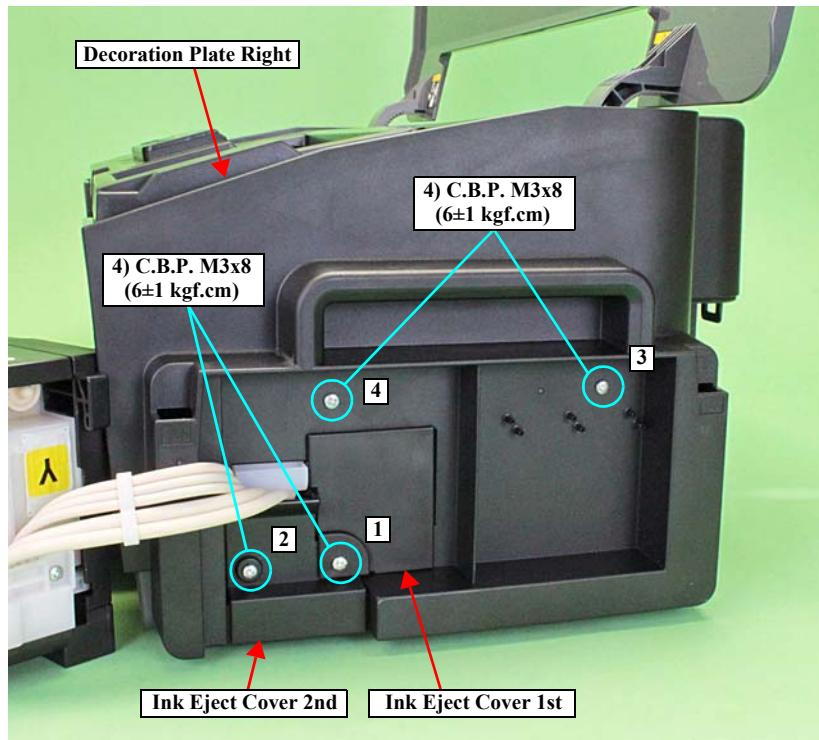

Figure 3-20. Removing the Decoration Plate Left/Right (1)
- For the Decoration Plate Right, Ink Eject Cover 2nd, and Ink Eject Cover 1st, screw in the order given in Figure 3-20.